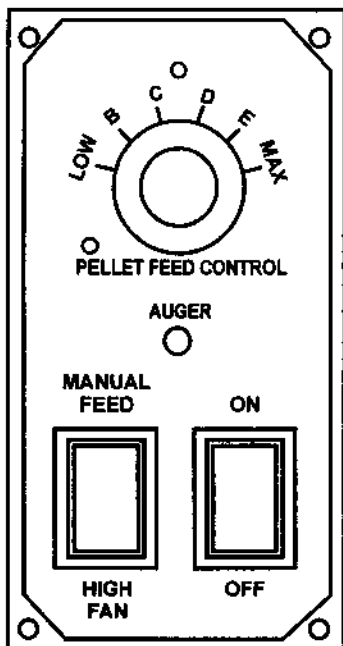

Figure 10
3.4 PANEL CONTROLS (See Figure 10)